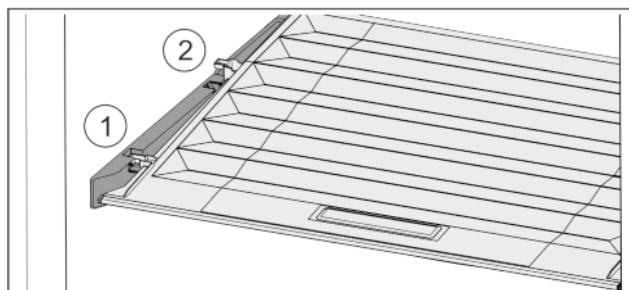

Fig. 35
- Pull the lid up at the front in the retaining parts to the opening Fig. 35 (1).
- Lift from the back and pull it up and out Fig. 35 (2).